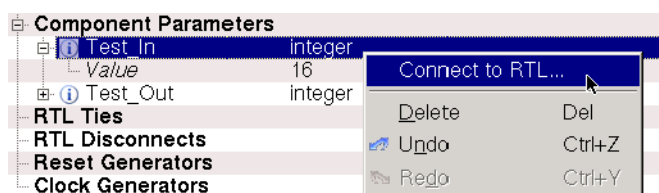

Figure 4-29 SoC Designer Component Parameters
1. Right-click the parameter name and select **Connect to RTL** from the context menu (Figure 4-29).